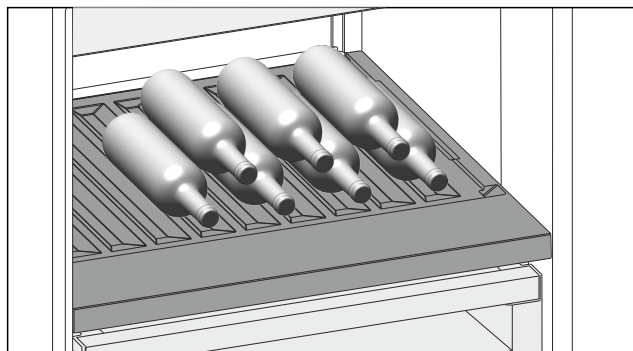

Fig. 109
- Place bottles in the back row with their bases against the back wall. (see Fig. 109)